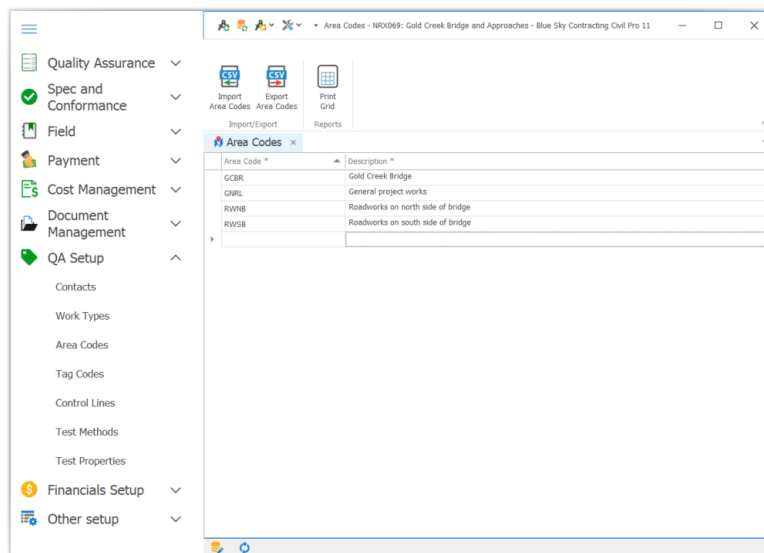

Figure 12 Completed Area Code Register
2. Using the information in the training supplement, enter a new Area code by typing the code (4 characters) and description directly in the grid. When complete your register should look like Figure 12.